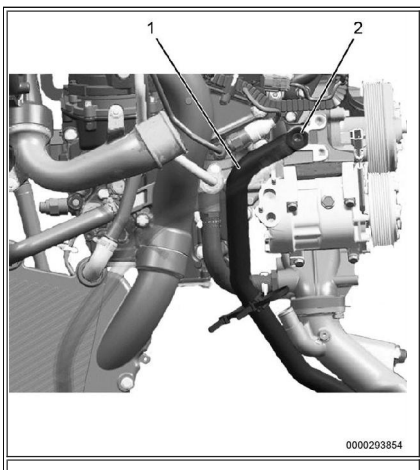

Figure 24: SCR Equipped Water Bypass Hose Replacement.
4. Rotate 90-degree elbow fitting (Figure 24, Item 2) down 1/8 turn.
5. Install new water bypass hose (Figure 24, Item 1) to deaeration tank and 90-degree elbow fitting.